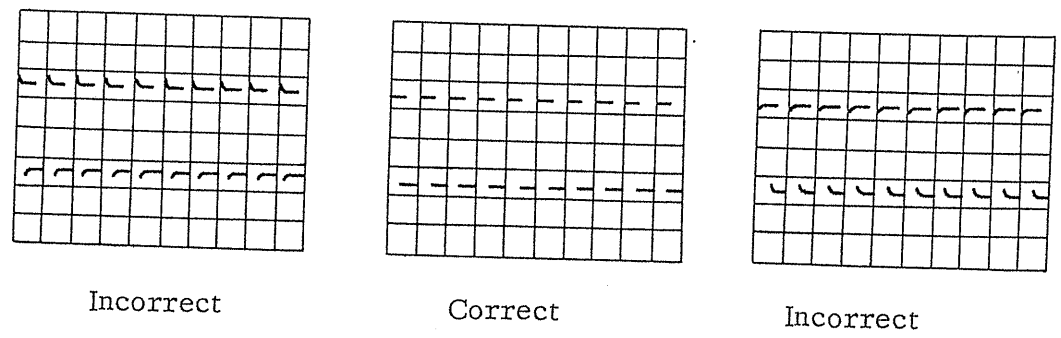

Fig. 10
3. Adjust trimmer capacitors for the respective range (see table below) so that a proper square-wave form is produced on the scale (See Fig. 10).